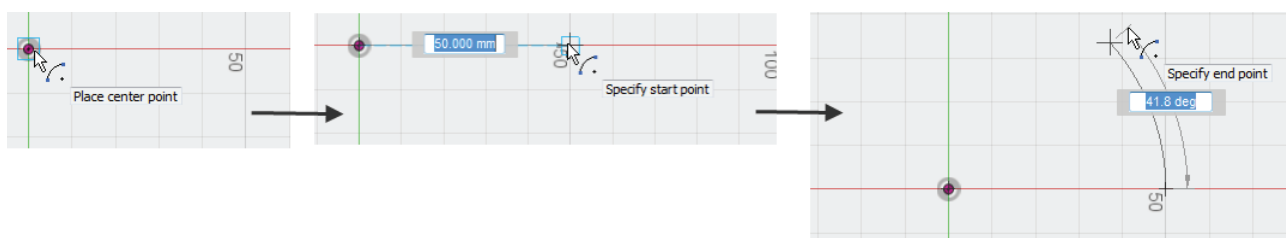

Figure-19. Creation of center point arc
- Enter the desired angle value in dynamic input box to define length of arc or click on the screen to specify the end point of the arc; refer to Figure-19.